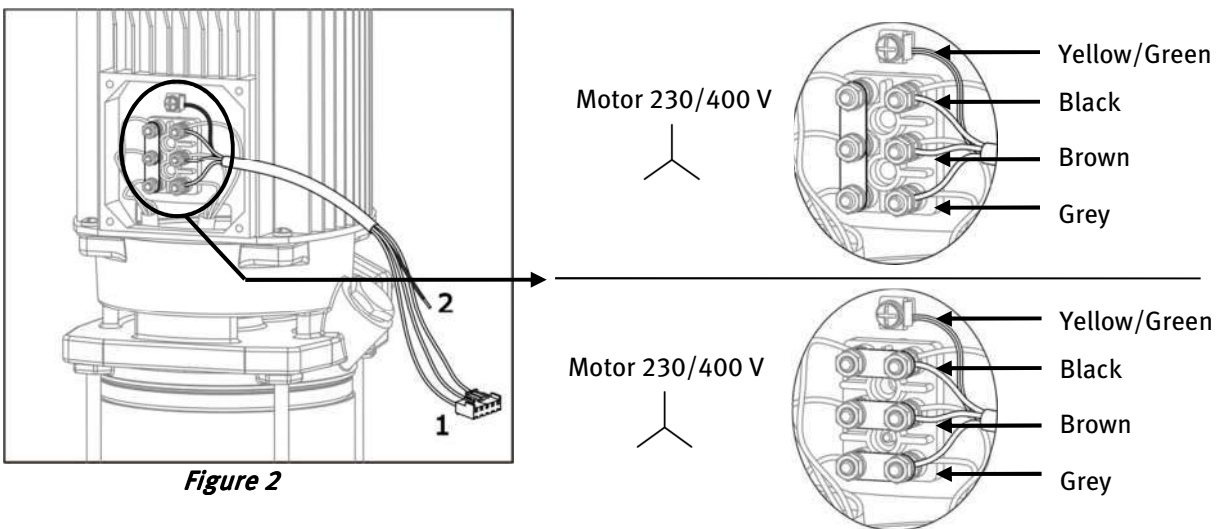

Figure 2
3.2.2) Speedrive with three-phase input (Figure 2):